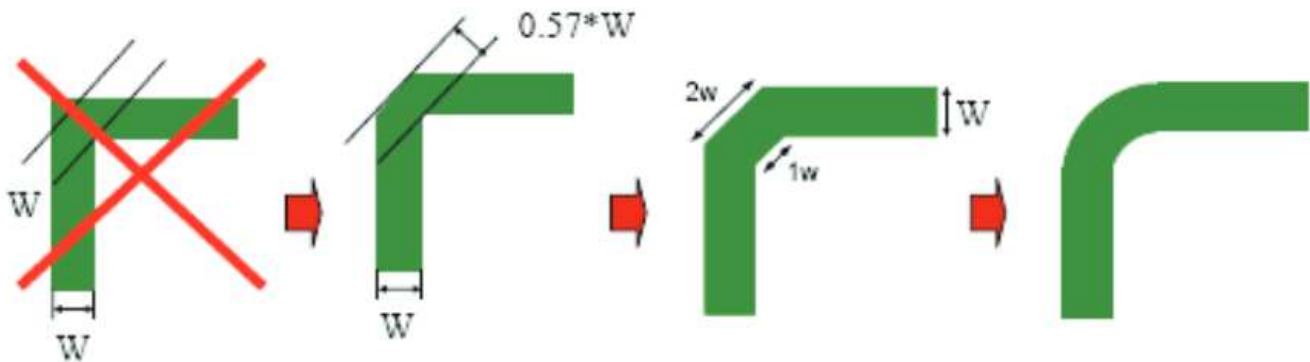

Figure 20. Poor and Good Right-Angle Bends
- Avoid right-angle bends in a trace and try to route them at least with two 45° corners. To minimize any impedance change, the best routing would be a round bend (see Figure 20).